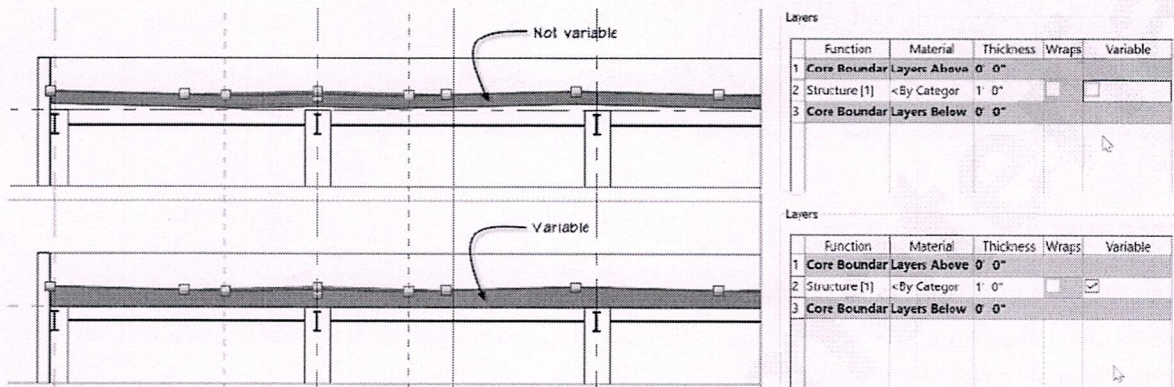

FIGURE 9.59 Comparing the roof with and without a variable thickness layer
- ⇒ Place a checkmark in the "Variable" column next to layer 2 and then click OK two times (see Figure 9.59).